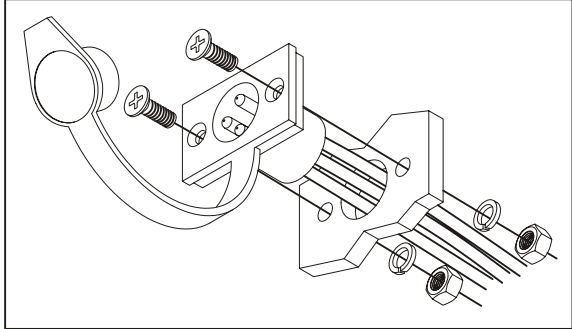

Figure 3: Remote socket installation
- After determining the mounting location for the remote socket, drill three holes and install. (see figure 3)